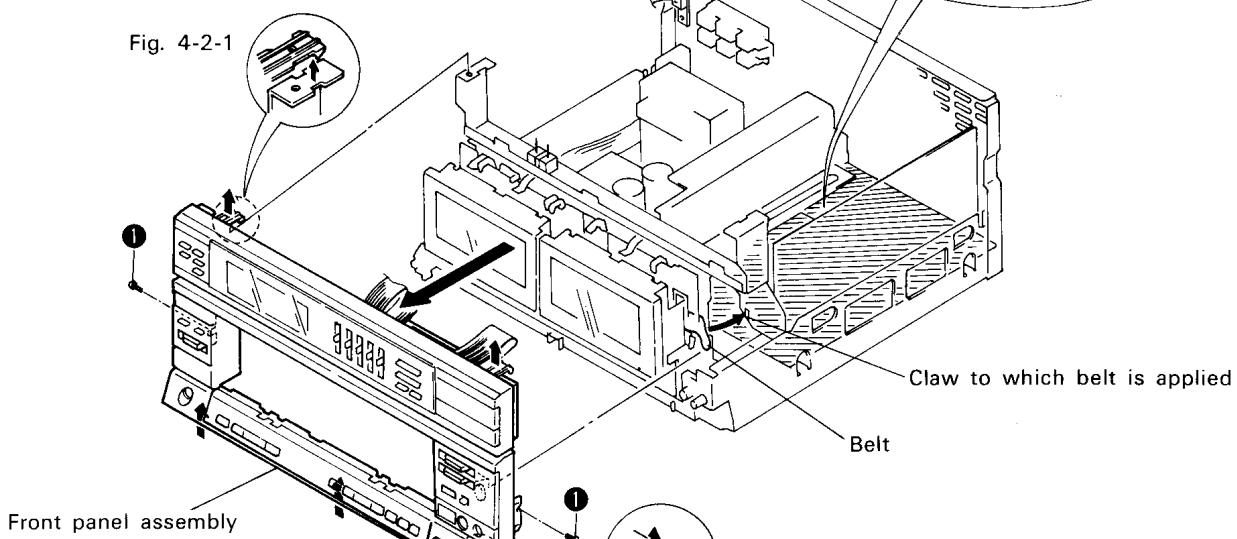

Fig. 4-2-2
4. Disengage the 3 positions of claws. (Fig. 4-2-2)